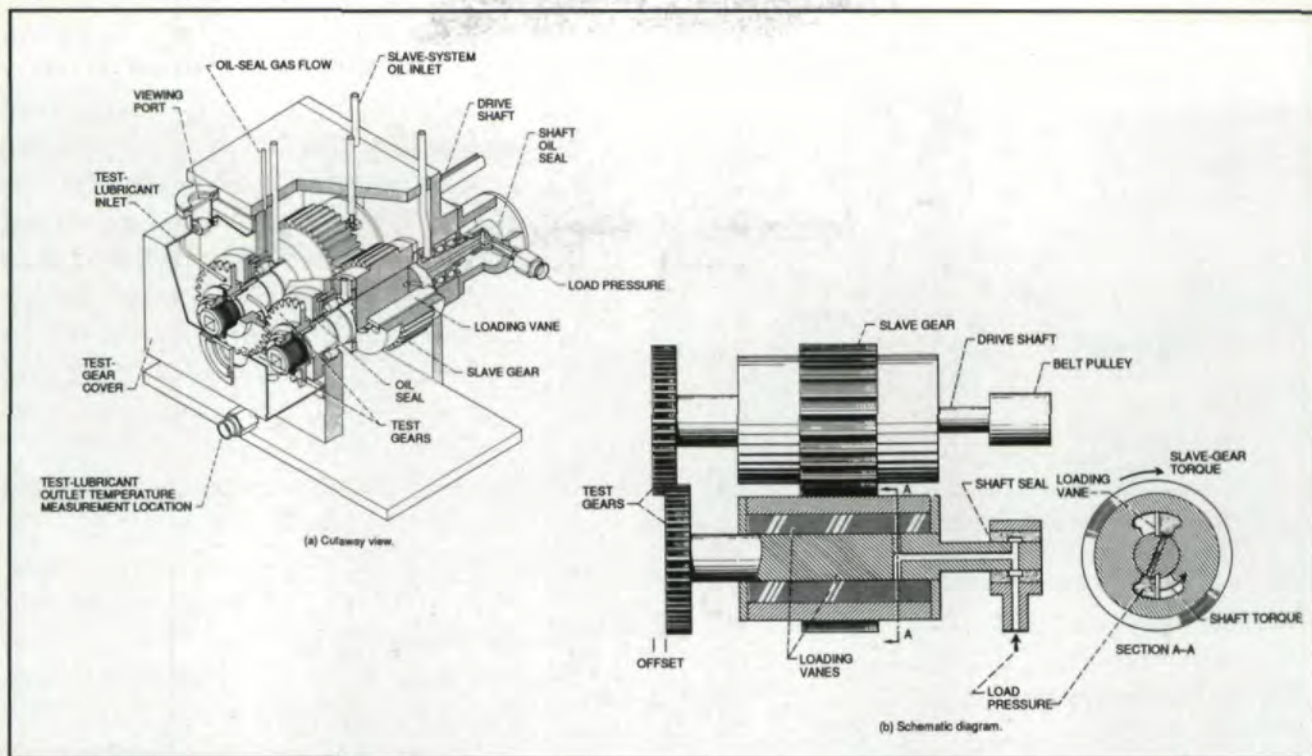

Fig. 1 NASA Lewis Research Center's gear fatigue test apparatus.
**Gear Test Apparatus.** The gear fatigue tests were performed in the NASA Lewis gear fatigue test apparatus (Fig. 1). This test rig uses the four-square principle (recirculating power) of applying the test gear load so that the input drive needs to overcome only the frictional losses in the system. A schematic of the test rig is shown in Fig. 1b. Oil pressure and leakage flow are supplied to the loading vanes through a shaft seal. As the oil pressure is increased on the loading vanes inside the slave gear, torque is applied to the shaft. This torque is transmitted through the test gears back to the slave gear, where an equal, but opposite torque is maintained by the oil pressure. This torque on the test gears, which depends on the hydraulic pressure applied to the loading vanes,